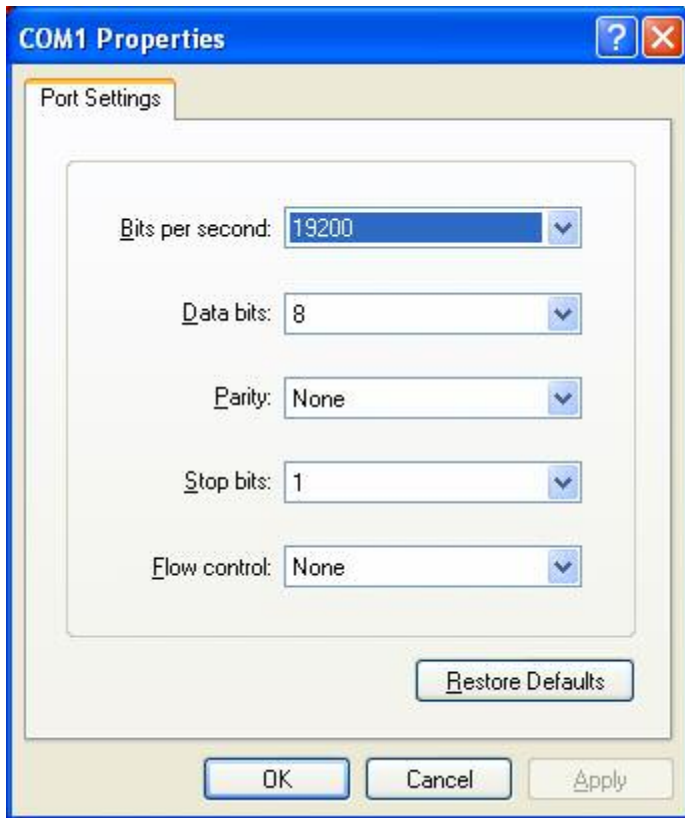

Figure 6 Hyperterminal serial port settings
2. PC: Start MS Hyperterminal and configure the relevant serial port to the settings shown in Figure 6.